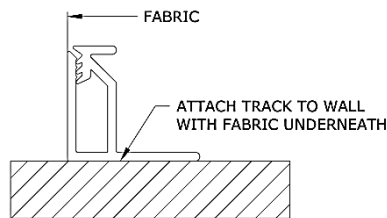
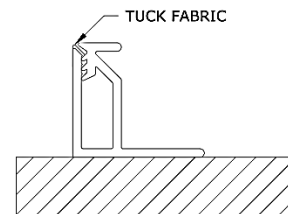

Fig. 3.2
Fig. 3.3
- 2. Adhere fabric to track, roll around edge (fig. 3.2) and tuck fabric into track (fig.3.3).